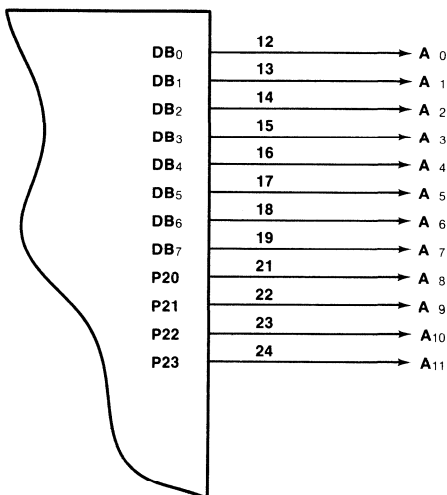

FIGURE 2-14. Address Output Lines
3. At this point, the address taken from the program counter is output on both the Bus and Port 2. This state can last indefinitely. Bus and port bit composition is illustrated in *Figure 2-14*.